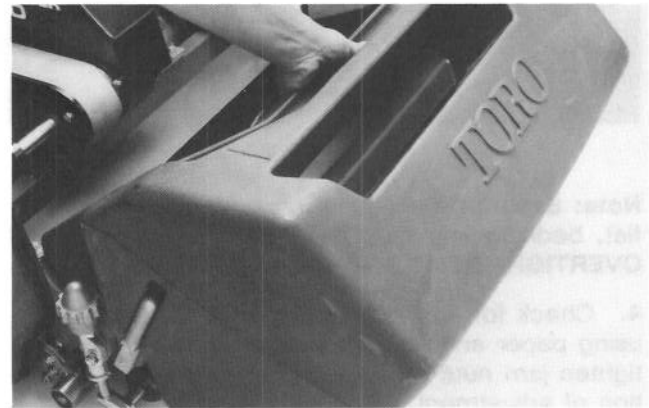

Figure 18
1. Grasp basket by top rear lip and slide onto the basket mounting rods (Fig. 18).